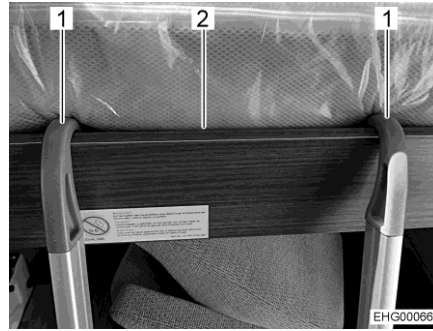

Fig. 103 Access ladder (pull-down bed)
- Hook the access ladder into the bed surround (Fig. 103,2) on the pull-down bed by the two brackets (Fig. 103,1). When engaging make sure that the hooks rest on the inner fixtures. This prevents lateral movement of the access ladder.
- Unhook the access ladder (Fig. 103,1).